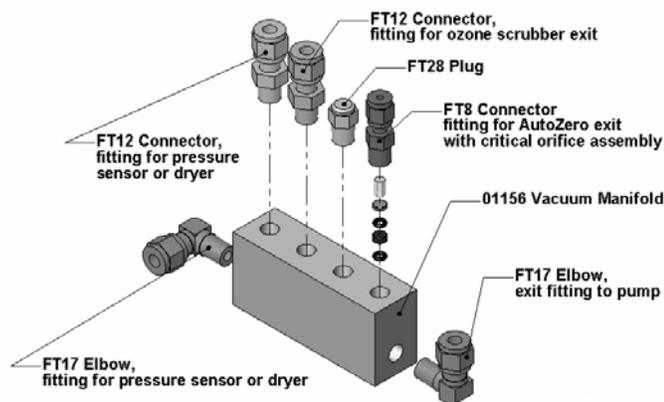

Figure 10-10: Vacuum Manifold, Standard Configuration
- Vacuum manifold, AutoZero exit (Figure 10-10)
- Vacuum manifold, IZS exit (if installed) (Figure 10-10)
The vacuum manifold is the central exit port for all analyzer pneumatics. All gas streams of the analyzer exit through this assembly and connect to the instrument's pump. Figure 10-10 shows the standard configuration. Configurations will vary depending on the optional equipment that is installed. An IZS option, for example, will add another FT8 connector and orifice assembly to the manifold, an optional sample dryer may add a Tee-fitting so that two ¼" tubes can be connected to the same port shown in the Figure.